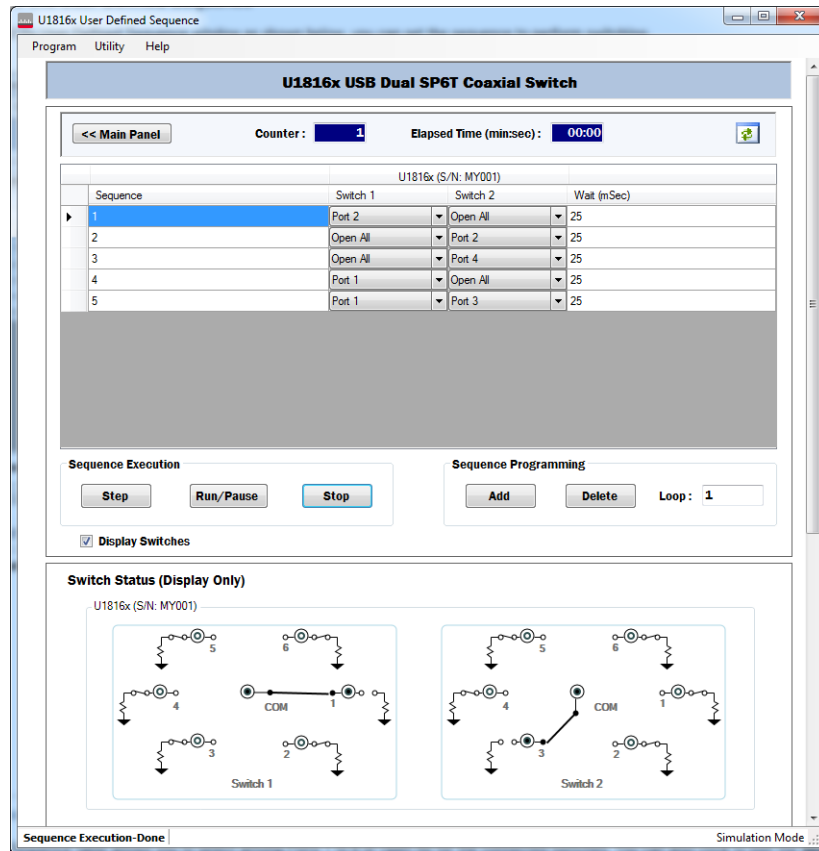

Figure 4-5 User Defined Sequence window
- You can set the sequence to perform switching in the U1816x User Defined Sequence window as shown in **Figure 4-5**. The Sequence table allows you to select among Ports 1 to 6 or Open All for the connected switches. You can also double-click to edit the **Sequence** field or to specify the time delay for each sequence at the **Wait (mSec)** field.